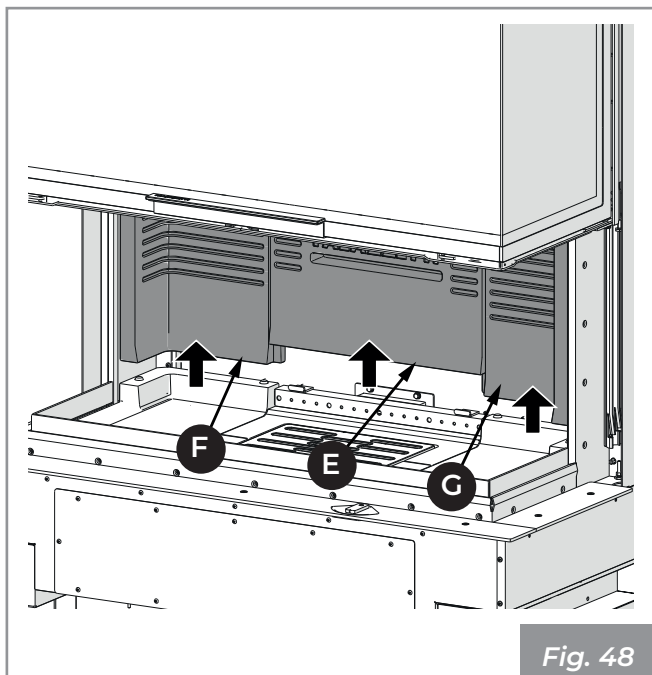

Fig. 48
- 5) Lift and extract first the central refractory back panel (E) and then the side ones (F, G) (Fig. 48).